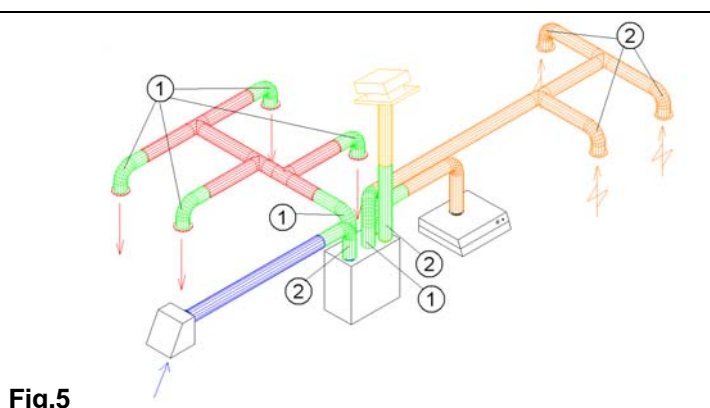

Fig.5
To avoid fan noise being transferred to rooms, install sound attenuators (pos.1, **fig.5**) on connectors for inlet air and extract air on the unit. (L = 1,0m). Not from cooker hood.
Flexible ducting (pos. 2, **fig. 5**) to be used only for connections between the unit and roof unit/grill for outdoor air intake.